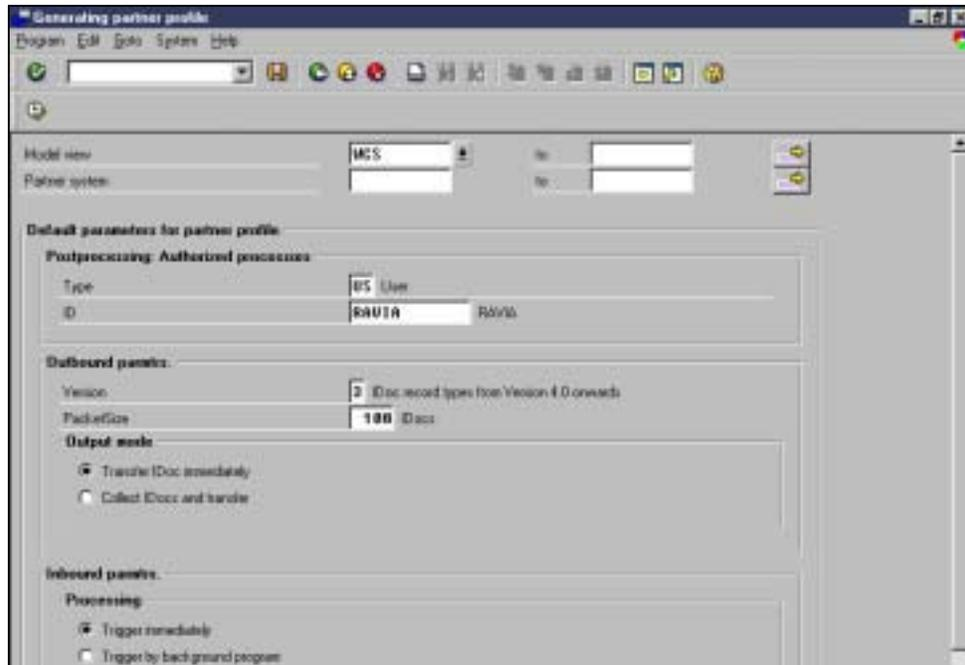

Figure 58: Generating a partner profile: choosing the model view
2. Type the model view as shown in Figure 58.